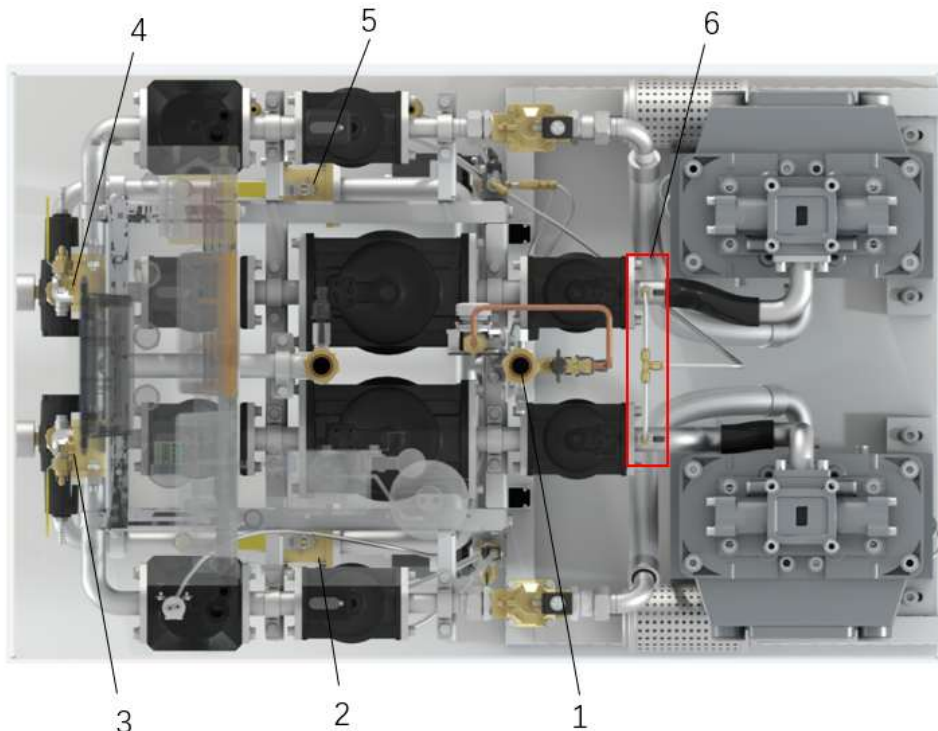

Figure 91
3. When activating **dryer 1**, keep valve 2 and valve 1, valve 3 and valve 6 closed, then open valve 4,5. As *Figure 91* shown.
10. When activating **dryer 2**, keep valve 1 and valve 4, valve 5 and valve 6 closed, then open valve 2,3, Refer to Figure 91.